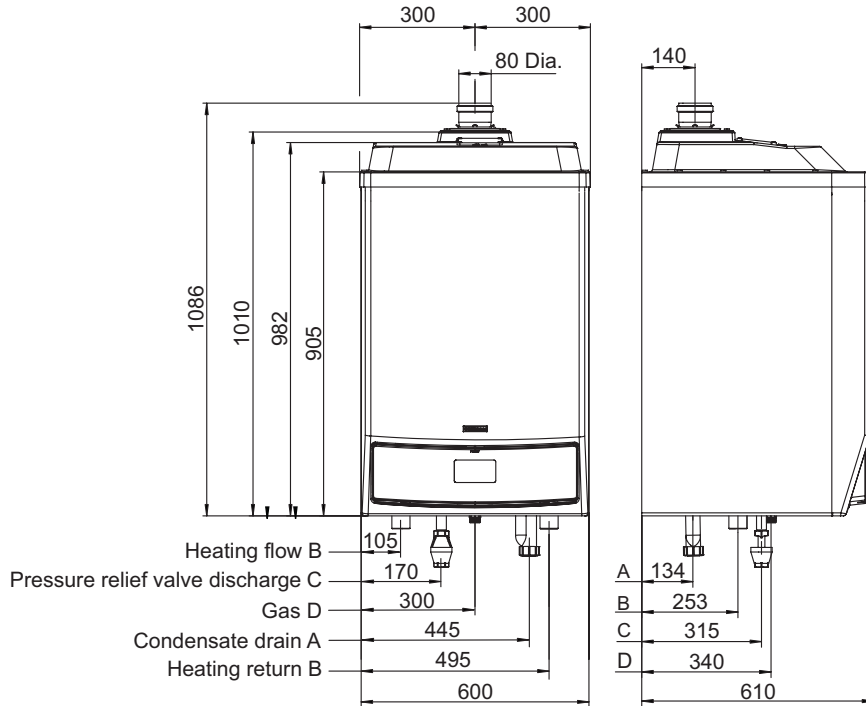

Fig. 12
4.2 DIMENSIONS and CONNECTIONS- Fig. 12
4.4 CONNECT THE PIPEWORK - Fig. 12